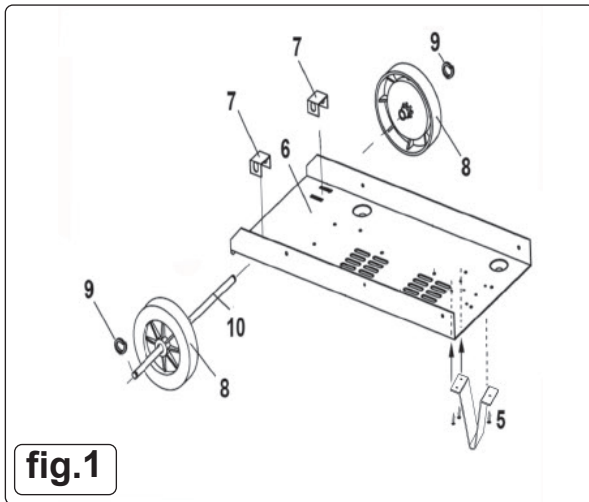

fig.1
4.1. ASSEMBLY OF WHEELS (See fig.1)
4.2. ASSEMBLY OF FRONT FOOT (See fig.1)